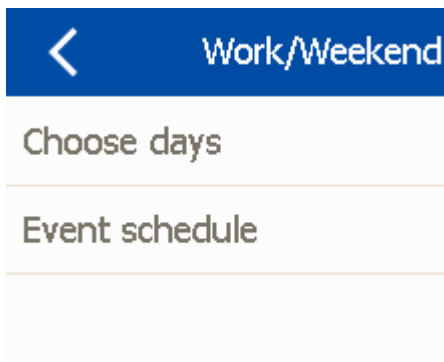

Fig. 91: Working days and weekend
- 1. ▶ On the screen in Fig. 91 click on 'Choose days'.
- 5. ▶ Go to the 'Work/Weekend' screen (Fig. 91).